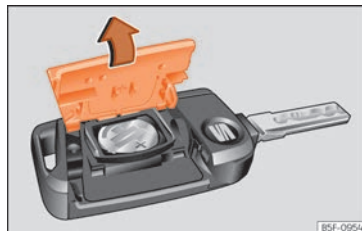

Fig. 89 Vehicle key: opening the battery compartment cover.
- Remove the cover from the back of the vehicle key »» Fig. 89 in the direction of the arrow »» ❶.
- Fit the cover as shown »» Fig. 89, pressing it onto the vehicle key casing in the opposite direction to that shown by the arrow until it clicks into place.